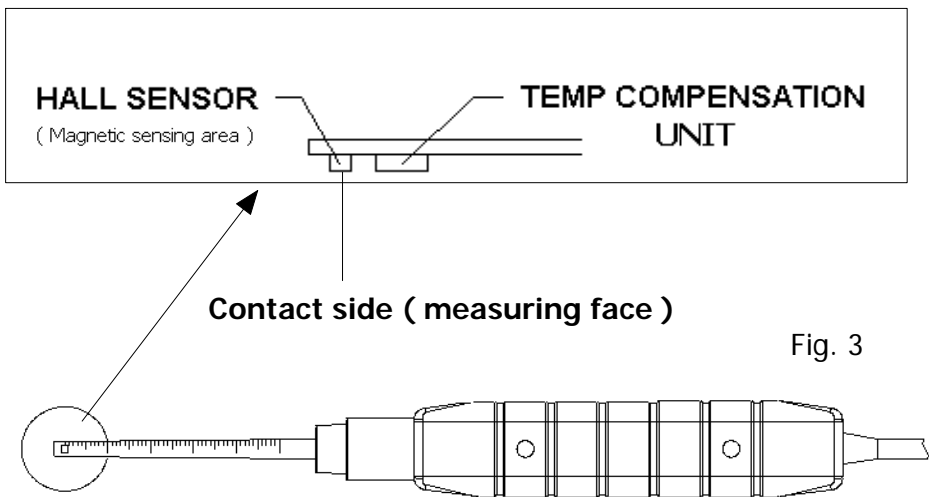

Fig. 3
- 5) Contact and close the testing material to the probe head ( refer to Fig. 3 ) , the Display will show the magnetic field value along with the unit ( mT, G ).